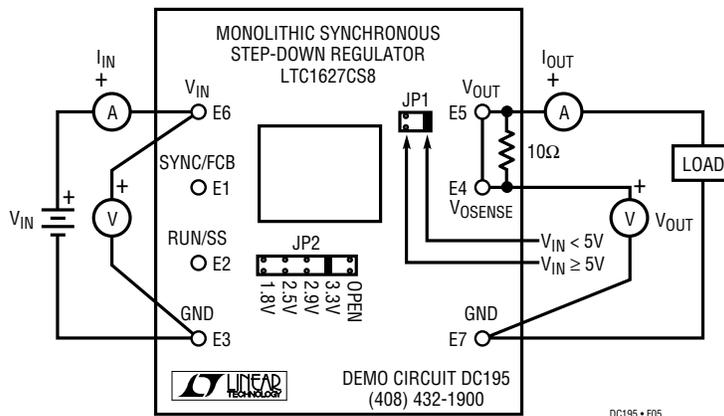

Figure 6. Proper Measurement Setup
- Refer to Figure 6 for proper connection of monitoring equipment to ensure correct measurement.
the output side of R6. These points correspond to the GND (E7) and V_{OSENSE} (E4) terminals of the board. Output voltage test leads should be attached directly to these terminals. The load should be placed between V_{OUT} (E5) and GND (E7). Measurements *should not* be taken at the end of test leads at the load. Refer to Figure 6 for the proper monitoring equipment configuration.